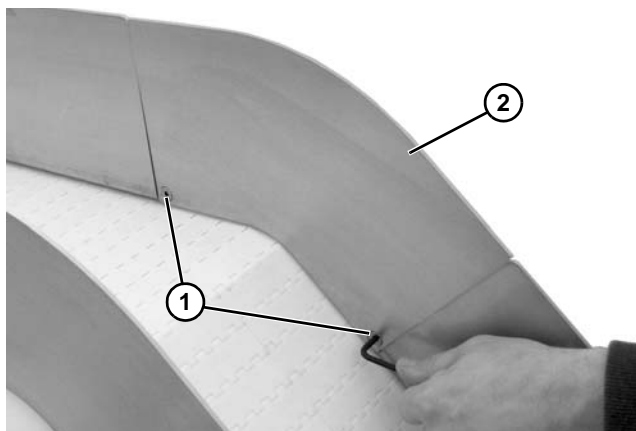

Figure 105
1. Remove two socket head screws (**Figure 105, item 1**) and guide plate (**Figure 105, item 2**) (if applicable).